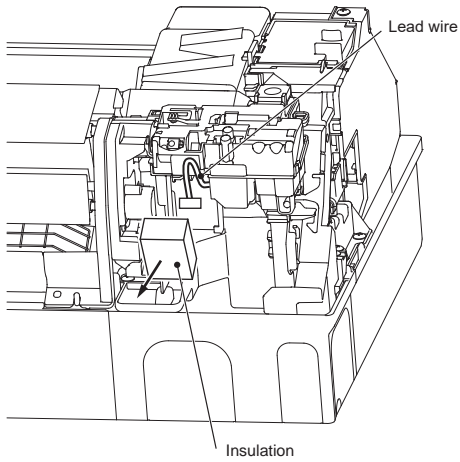

Fig. 1
- 2) Remove the insulation and take out the lead wire below the insulation. (Fig. 1)